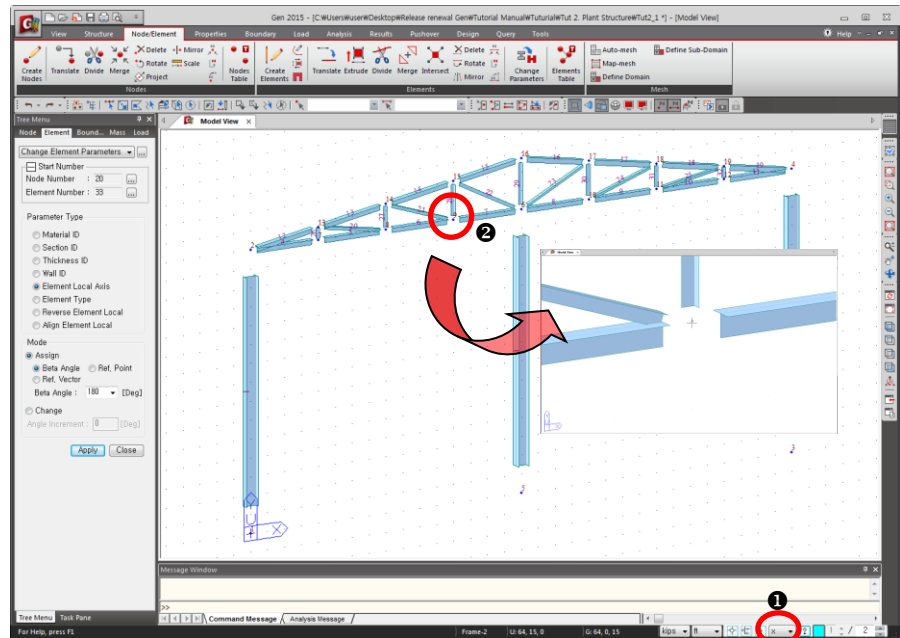

Figure 2.7 Switching the Bottom Chord Beta Angle
The T-shape section members are used for the bottom chord of the roof truss (Fig.2.7– ②) and the section is non-symmetrical about the strong axis. Click  **Iso View**,  **Shrink**, and  **Zoom Window** to magnify the bottom chord of the truss. Observation of the section of the bottom chord will show that the web is oriented downward.
☞ It is easier to select the bottom chord if 'x' is selected in the Filter field (Fig.2.7- 1).
7. Magnify  2 shown in Fig.2.7 to confirm the orientation of the bottom chord.